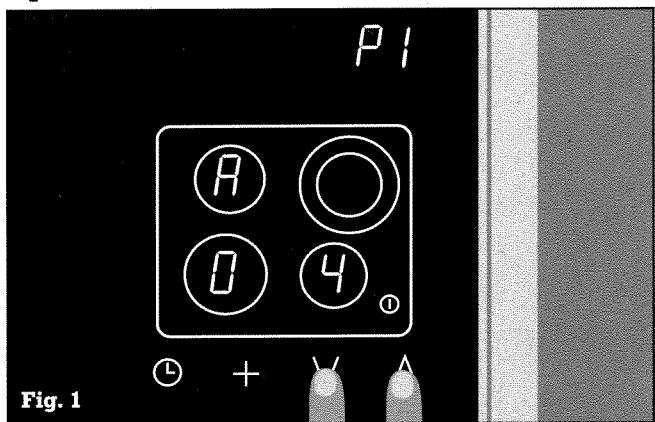

Fig. 1
- Touch symbols \vee and \wedge on the cooking range when switched on. You will hear a signal. Keep your fingers pressed down until a second signal sounds after a few seconds and $P1$ flashes on the timer display panel. Remove fingers immediately. $R04$ appears on the cooking zone display panel, i.e. a quick boil time of 4 minutes is stored (fig. 1).